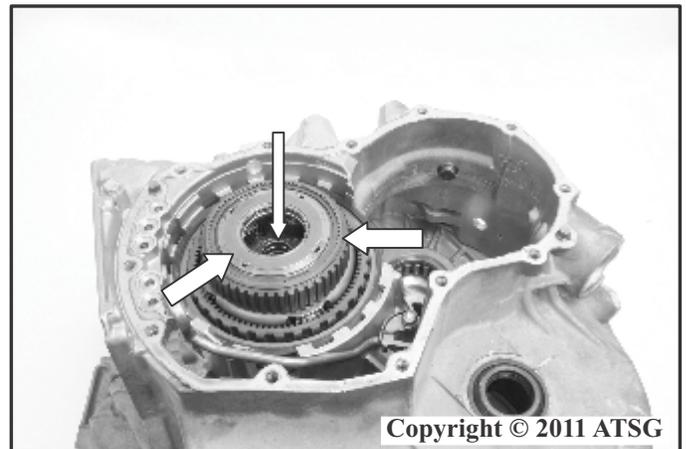

Figure 55
85. Remove the rear sun gear thrust bearing race as shown in Figure 55.
86. Remove the front sun gear thrust bearing race and front sun gear thrust bearing assembly as shown in Figure 55.
87. Remove the rear internal gear assembly as shown in Figure 55.
88. Remove the rear internal gear thrust bearing assembly as shown in Figure 55.